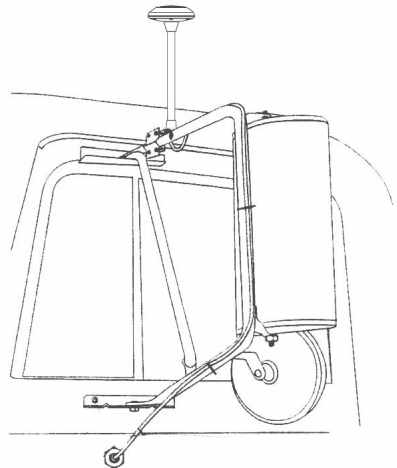

Figure 5. Mirror Mount Cable Routing
17. If you have an access hole and do not want the cable routing through the window vent route the cable through this hole. See Figure 5.